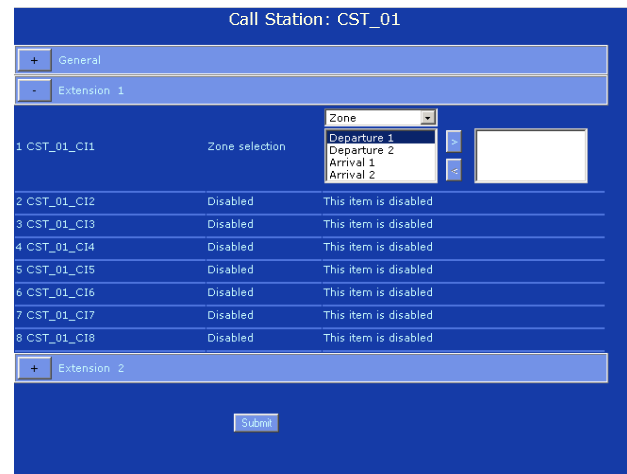

figure 38.7: Zone selection, step 3
- 3 Click the *Extension* that contains the key that must be configured. A screen similar to the one in figure 38.7 appears in the main frame of the web interface.